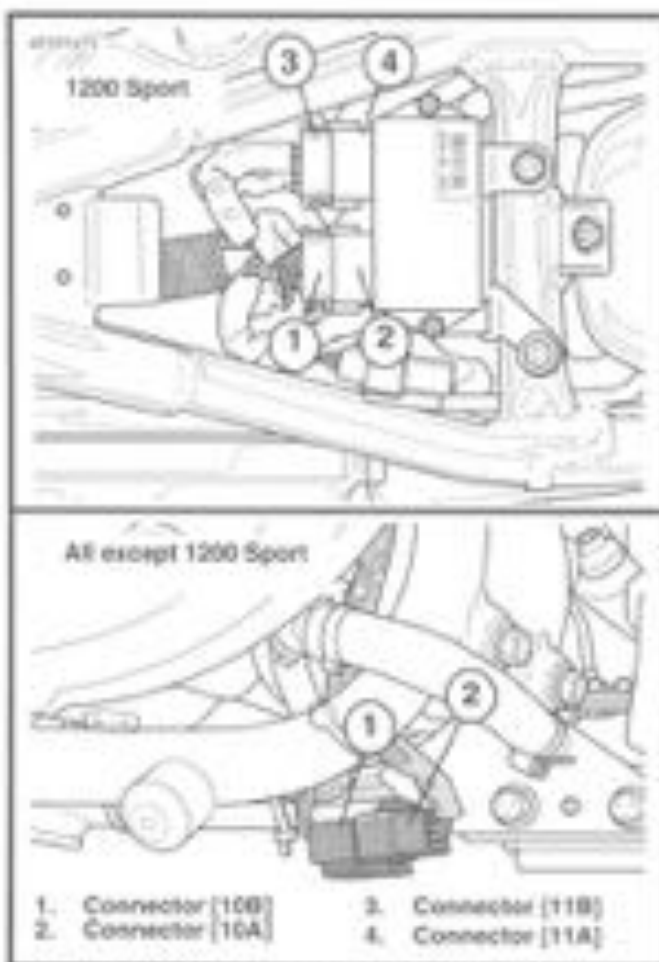

Figure 7-14. Breakout Box Connection
5. See Figure 7-14 and 7-15. On 1200S models, connect the Black male connector from the Breakout Box to Ignition module connector [10B] and connector [10A] from the harness to the Black female connector on the breakout box.